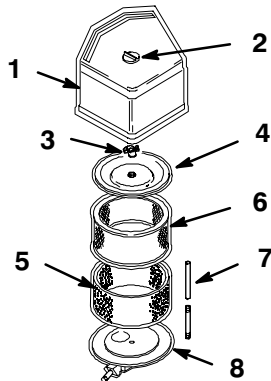

Figure 17
3. Clean around the air cleaner to prevent dirt from getting into the engine and causing damage. Remove knob and the air cleaner cover (Fig. 17).
4. Carefully slide the foam element off the paper element (Fig. 17).
5. Unscrew the cover nut and remove the cover and paper element (Fig. 17).